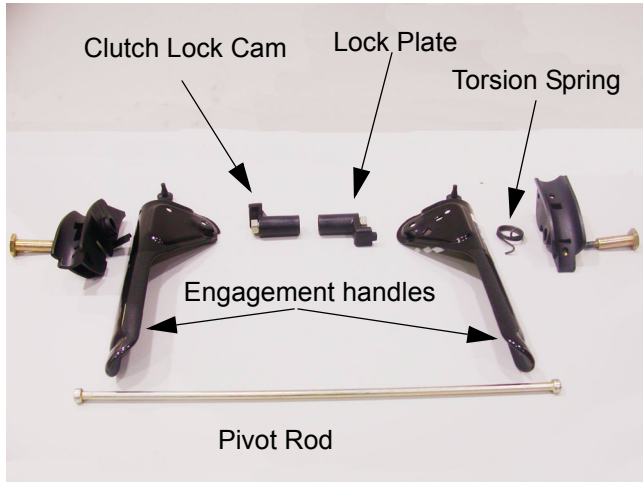

Figure 15.4
- 15.4. Carefully release the tension from the torsion spring as the bolt withdraws. Some models are equipped with an auger lock, or one hand operation the following image shows the parts of the auger lock feature See Figure 15.4.